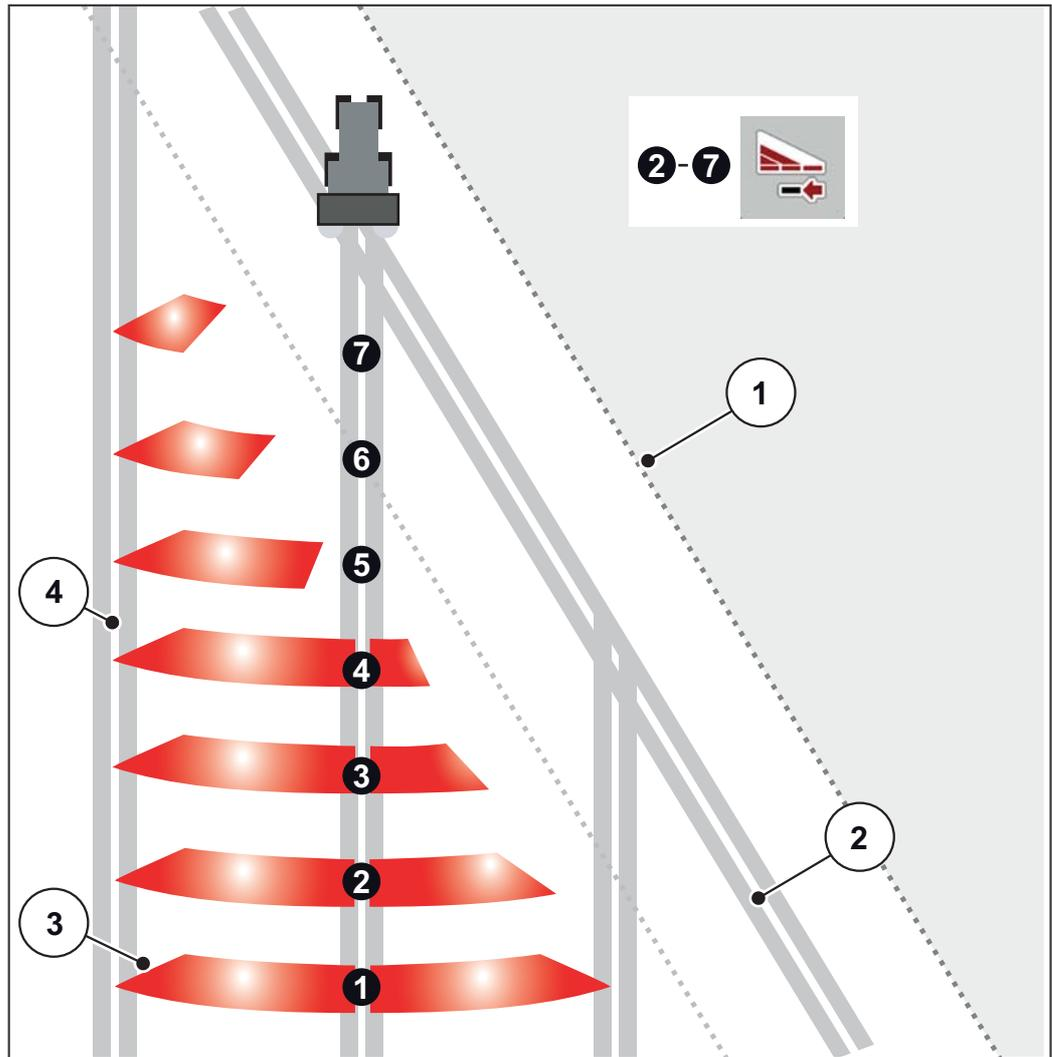

Figure 5.4: Automatic section control
- Section control is possible from the outside to the inside or vice versa. See Figure 5.4.